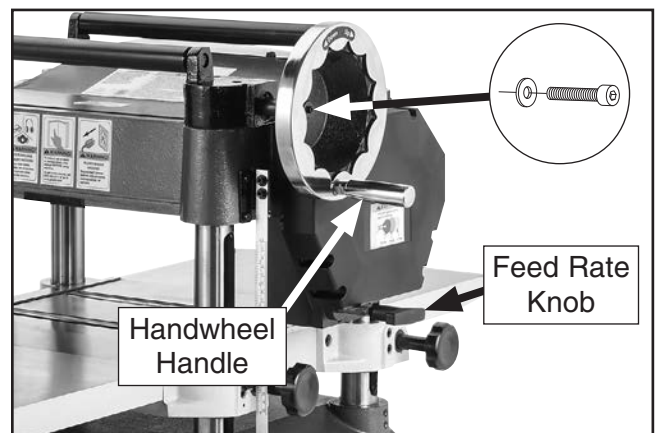

Figure 17. Handwheel and T-knob installed.
4. Thread handwheel handle into handwheel (see **Figure 17**).
5. Thread feed rate knob onto feed rate shaft (see **Figure 17**).
6. Secure handwheel on shaft with pre-installed M5-8 x 16 cap screw and 5mm flat washer (see **Figure 17**).